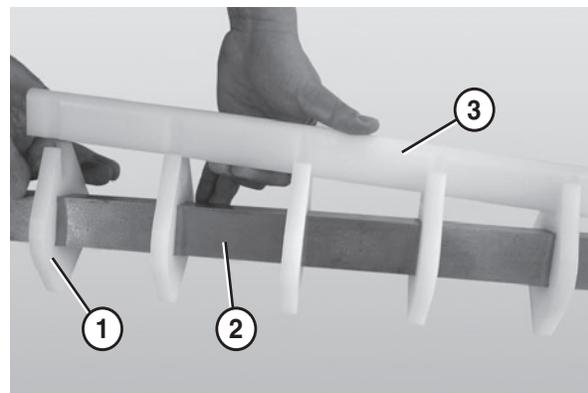

Figure 81
1. Slide the nose bar pucks (**Figure 81, item 1**) onto the nose bar drive post (**Figure 81, item 2**).
2. Attach the nose bar wear strip (**Figure 81, item 3**).